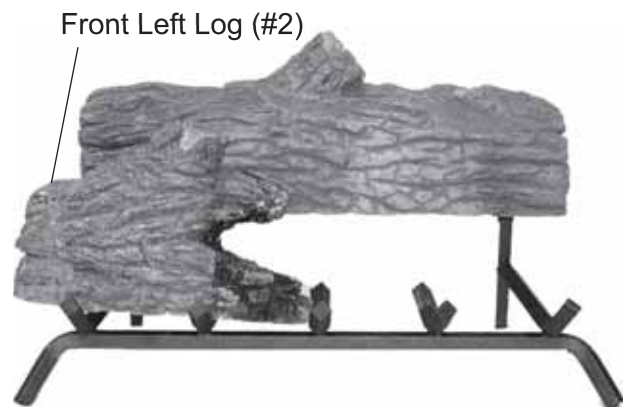

Figure 21 - Placing Front Left Log (#2) on Grate
3. Place front left log #2 on the front of the grate and to the left. *See Figure 21.*